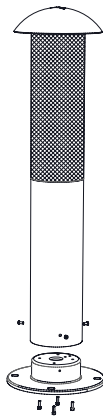

Figure 12
4. Insert the three M5 x 12mm button head machine screws into the side of the enclosure as shown in Figure 12.